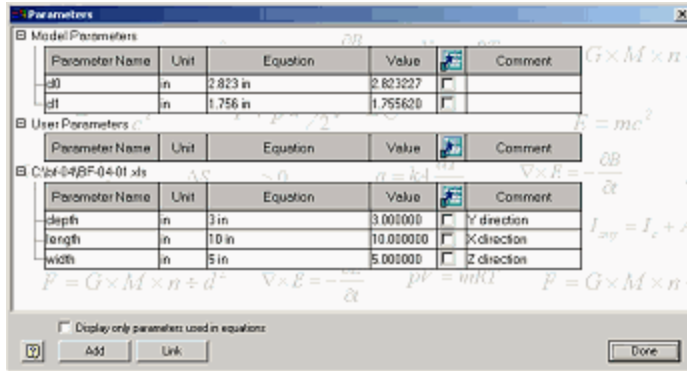

Figure 4: The Parameters dialog box after linking to the spreadsheet.
11. The Parameters dialog box now looks like Figure 4. Observe how the additions at the bottom of the dialog box bear a remarkable similarity to the spreadsheet in Figure 1!